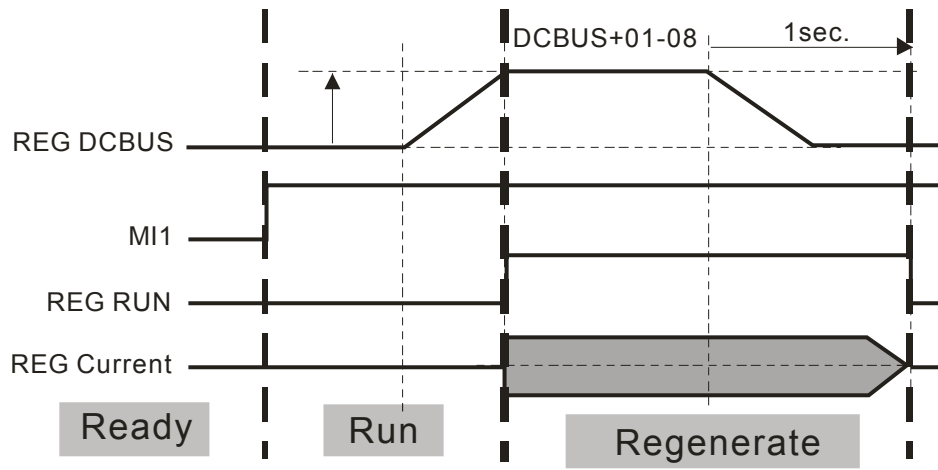

Figure 3: The Definition of Different Working Status of Power Regeneration.
*See Figure 3: The Definitions of Different Working Status of Power Regeneration.in section 4-4.